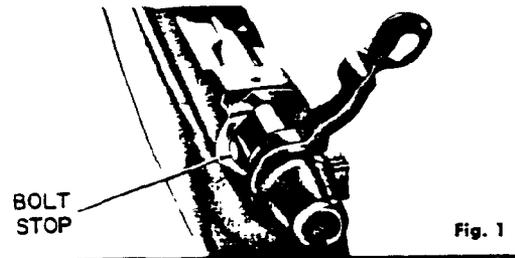

Fig. 1
**CLEANING AND CARE** — **Caution:** Make sure rifle is empty of live ammunition (before cleaning). To make cleaning of barrel or bolt easier remove bolt from rifle. (See Fig. 1). Use a good petroleum solvent for cleaning of parts.